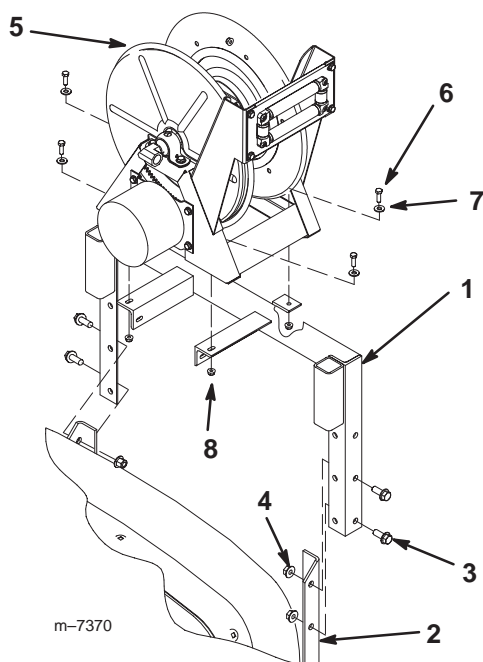

Figure 1
1. Install the hose reel frame to the boom frame supports using 4 flange-head bolts (1/2 x 1-1/4 inch) and 4 flange nuts (1/2 inch) (Fig. 1).
2. Install the hose reel assembly onto the hose reel frame (Fig. 1) using 4 bolts (5/16 x 1 inch), 4 washers, and 4 flange nuts (5/16 inch).